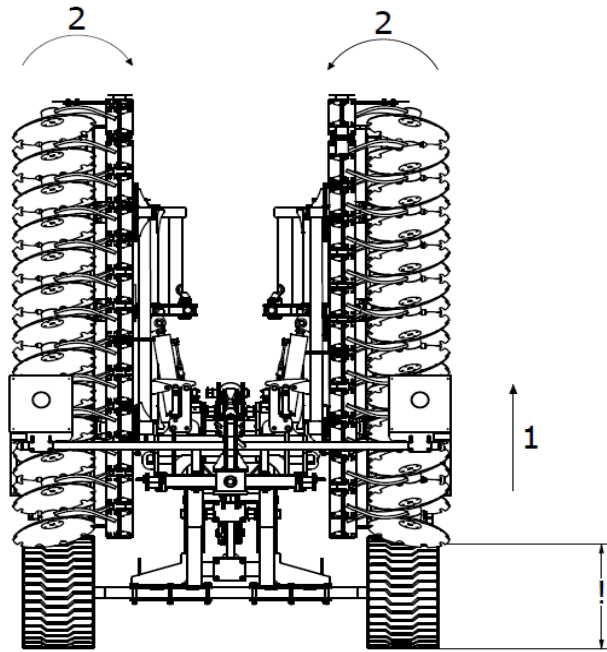

Fig. 20 Implement opening sequence: 1- raise the implement up to the maximum, 2- fold the side extensions into the “closed” position.
1. First, raise the implement as much as possible to be able to fold it correctly, avoiding the risk of the folding arms snagging on the ground during movement (Fig. 20).
2. Next, fold the implement side extensions hydraulically into the “closed” position to ensure that the side extension lock mechanism will unlock and allow the implement arms to be opened at a later stage. This operation is necessary each time the arms are opened (Fig. 20).